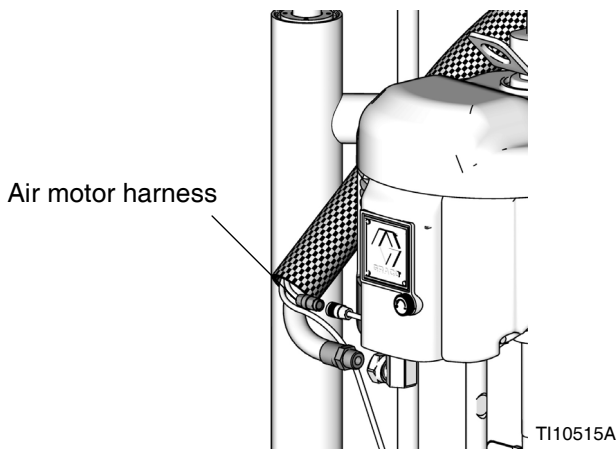
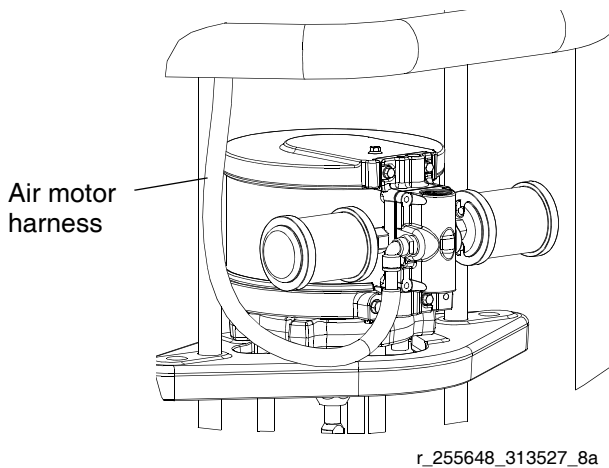
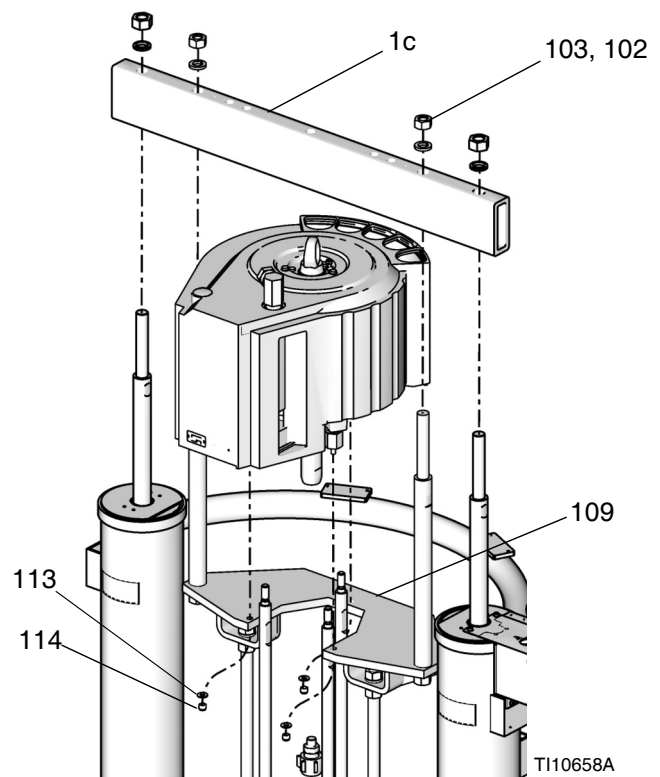

FIG. 22: NXT 2200-6500 Air Motor Harness
FIG. 23: NXT 200-1800 Air Motor Harness
FIG. 29: Xtreme XL Air Motors
3. Connect air hose to motor. If using a remote DataTrak, connect electrical connections to the air motor. See FIG. 22 and FIG. 23 on page 26.
1. Using a capable hoist, lower air motor on the mounting plate (109). See FIG. 29.
2. Secure motor to mounting plate (109) with nuts (114) and washers (113).
3. Install cross bar (1c), nuts (103), and washers (102).
5. Connect air hose to motor. If using a remote DataTrak, connect electrical connections to the air motor. See FIG. 22 on page 26.